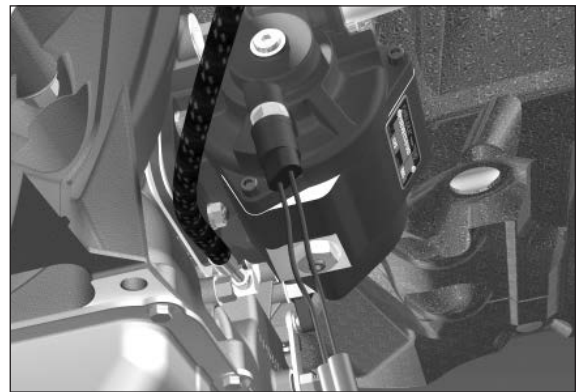

Figure 37
16. Install the PTO pressure switch onto port on the Hydraulic Valve Cap. Torque to 10-12 lb-ft [13.56-16.27 N-m] (**Fig. 37**).